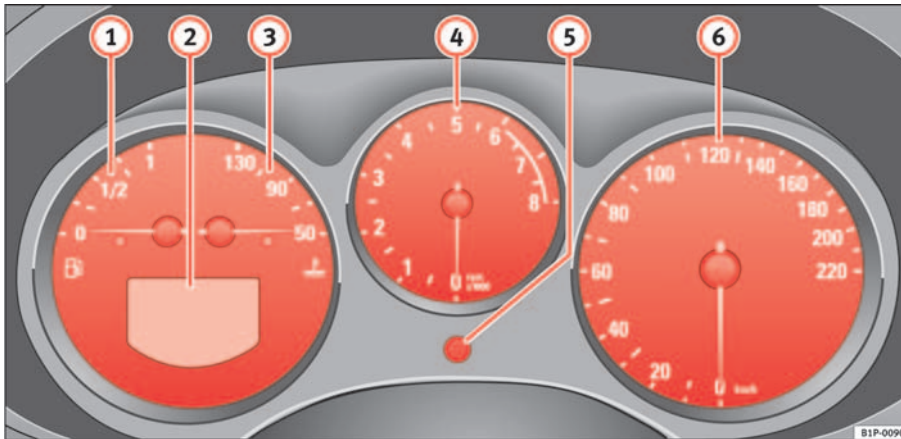

Fig. 32 Detail of the dash panel: Instruments
The start of the red zone on the dial ⇒ page 56, fig. 32  indicates the maximum engine speed which may be used briefly when the engine is warm and after it has been run in properly. However, it is advisable to change up a gear or move the selector lever to D (or lift your foot off the accelerator) before the needle reaches the red zone.
- Turn the setting knob ⇒ page 56, fig. 32  anti-clockwise to the stop to set the hour. If the knob is turned briefly anti-clockwise the clock will advance one hour further.
The right-hand counter registers the short journeys. The last digit indicates steps of 100 metres. The trip recorder counter may be reset by the reset button ⇒ page 56, fig. 32 ⑤.